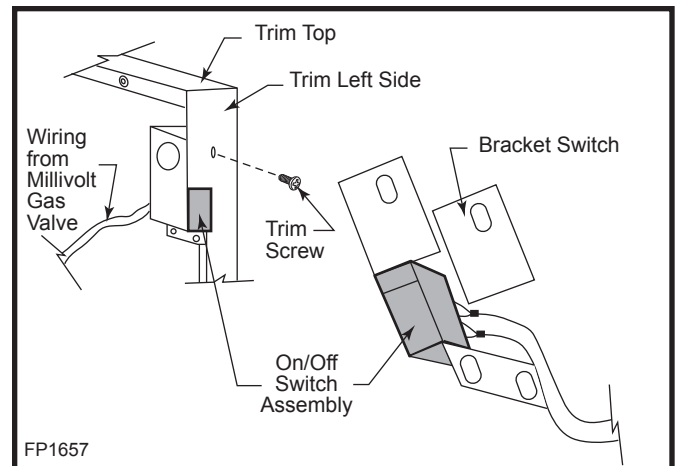

Fig. 6 Left side switch installation.
3. For left side installation reverse switch position in bracket and repeat Step 2. (Fig. 6)